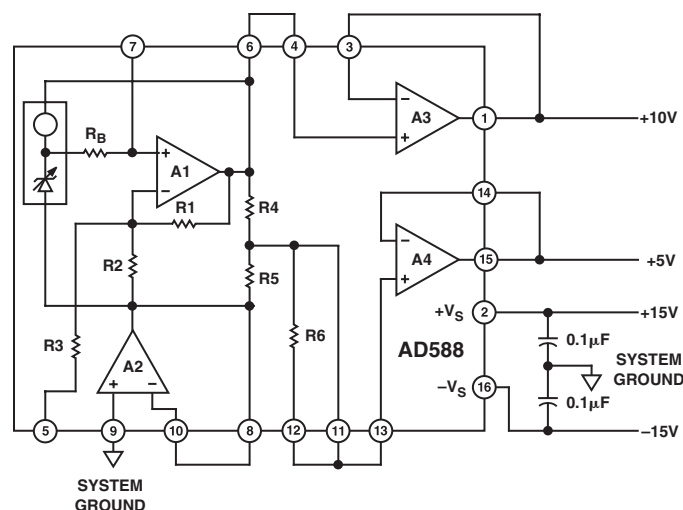
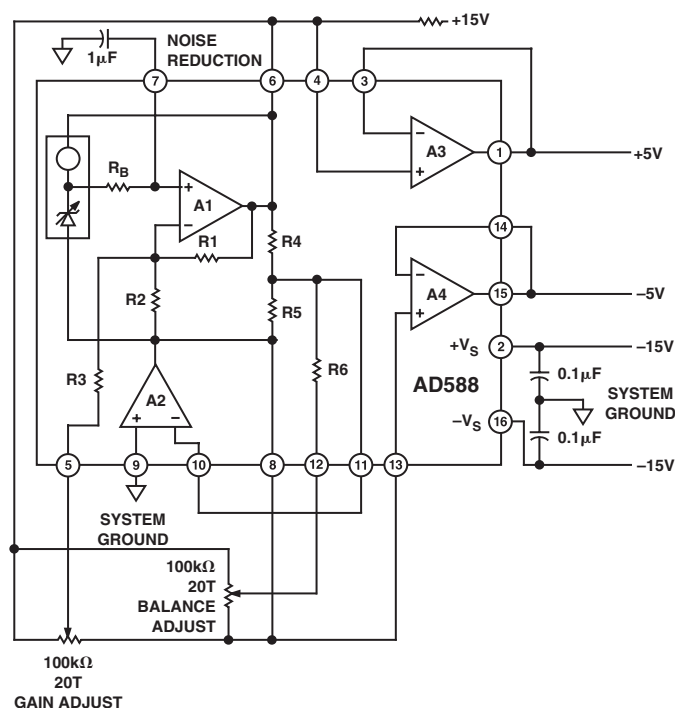
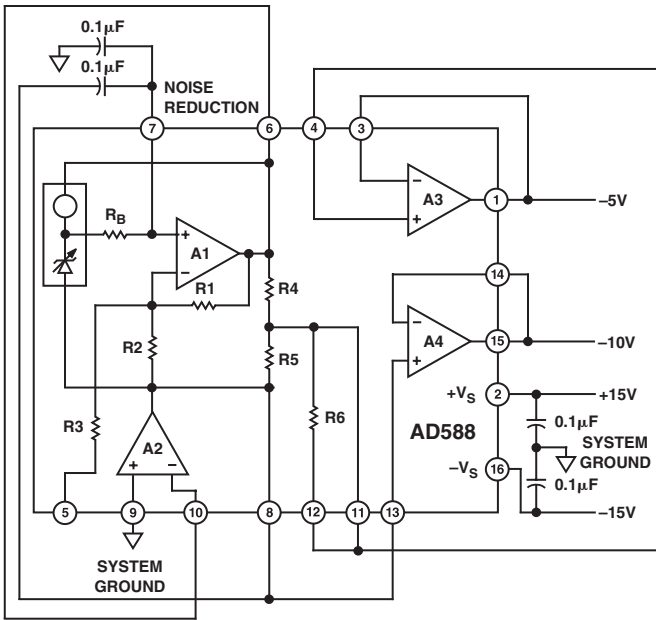
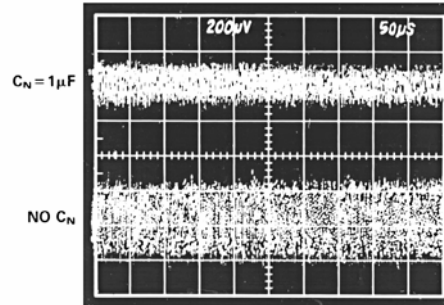

Figure 2a. +10 V Output
Figure 2b. +5 V and -5 V Outputs
Figure 2c. -10 V Output
Figure 4. Effect of 1 μF Noise Reduction Capacitor on Broadband Noise
+10 V	Figure 2a
-10 V	Figure 2c
+5 V, -5 V, ±5 V	Figure 2b
The AD588 can be configured to provide +10 V and -10 V reference outputs as shown in Figures 2a and 2c, respectively. It can also be used to provide +5 V, -5 V, or a ±5 V tracking reference, as shown in Figure 2b. Table I details the appropriate pin connections for each output range. In each case, Pin 9 is connected to system ground and power is applied to Pins 2 and 16.
The architecture of the AD588 provides ground sense and uncommitted output buffer amplifiers that offer the user a great deal of functional flexibility. The AD588 is specified and tested in the configurations shown in Figure 2a. The user may choose to take advantage of the many other configuration options available with the AD588. However, performance in these configurations is not guaranteed to meet the extremely stringent data sheet specifications.
As indicated in Table I, a +5 V buffered output can be provided using amplifier A4 in the +10 V configuration (Figure 2a). A -5 V buffered output can be provided using amplifier A3 in the -10 V configuration (Figure 2c). Specifications are not guaranteed for the +5 V or -5 V outputs in these configurations. Performance will be similar to that specified for the +10 V or -10 V outputs.
Amplifiers A3 and A4 can be used interchangeably. However, the AD588 is tested (and the specifications are guaranteed) with the amplifiers connected as indicated in Figure 2a and Table I. When either A3 or A4 is unused, its output force and sense pins should be connected and the input tied to ground.
Figure 2b shows GAIN and BALANCE trims in a +5 V and -5 V tracking configuration. A 100 k Ω 20-turn potentiometer is used for each trim. The potentiometer for GAIN trim is connected between Pin 6 (V_{HIGH}) and Pin 8 (V_{LOW}) with the wiper connected to Pin 5 (GAIN ADJ). The potentiometer is adjusted to produce exactly 10 V between Pin 1 and Pin 15, the amplifier outputs. The BALANCE potentiometer, also connected between Pin 6 and Pin 8 with the wiper to Pin 12 (BAL ADJ), is then adjusted to center the span from +5 V to -5 V.
If further noise reduction is desired, an optional capacitor, C_N , may be added between the NOISE REDUCTION pin and ground, as shown in Figure 2b. This will form a low-pass filter with the 4 kΩ R_B on the output of the Zener cell. A 1 μF capacitor will have a 3 dB point at 40 Hz and will reduce the high frequency (to 1 MHz) noise to about 200 μV p-p. Figure 4 shows the 1 MHz noise of a typical AD588 both with and without a 1 μF capacitor.
Note that a second capacitor is needed in order to implement the NOISE REDUCTION feature when using the AD588 in the -10 V mode (Figure 2c.). The NOISE REDUCTION capacitor is limited to 0.1 μF maximum in this mode.